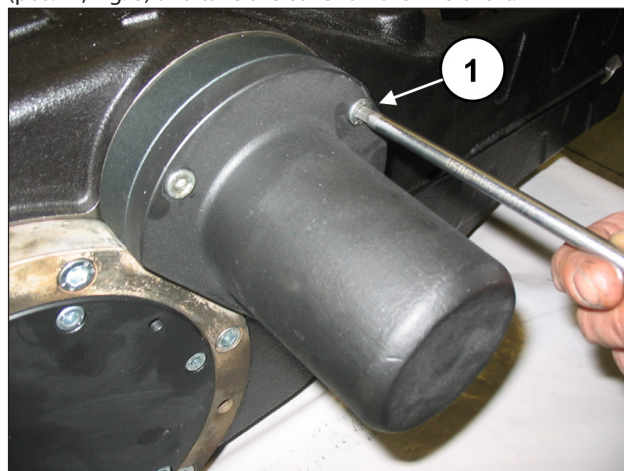

Fig. 8
Unscrew the attachment screws of the shaft end cover (pos. ①, Fig. 8) and take the cover off the PTO shaft.